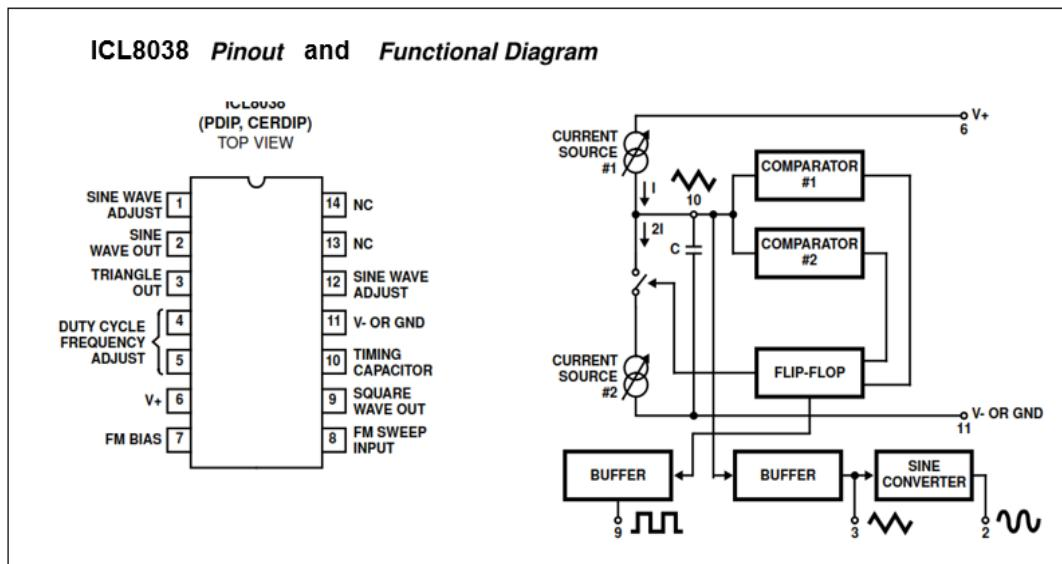

Figure 1: IC 8038 pinout and functional diagram
**THEORY:** Frequency modulation: FM is that form of angle modulation in which the instantaneous frequency is varied linearly with the message signal. The IC 8038 waveform generator is a monolithic integrated circuit capable of producing high accuracy sine, square, triangular, saw tooth and pulse waveforms with a minimum number of external components. Figure 1 shows Pin diagram of IC 8038. It is a Precision waveform Generator/voltage controlled oscillator. It is a monolithic IC capable of producing high frequency sine, square, triangular, saw tooth & pulse wave (frequency range 0.001hz to 300khz).
**Basic principle of IC 8038:** In Figure 1 of functional block diagram of IC 8038, an external capacitor C is charged and discharged by two current sources. Current source #2 is switched on and off by a flip-flop, while current source #1 is on continuously. Assuming that the flip-flop is in a state such that current source #2 is off, and the capacitor is charged with a current I, the voltage across the capacitor rises linearly with time. When this voltage reaches the level of comparator #1 (set at 2/3 of the supply voltage), the flip-flop is triggered, changes states, and releases current source #2.